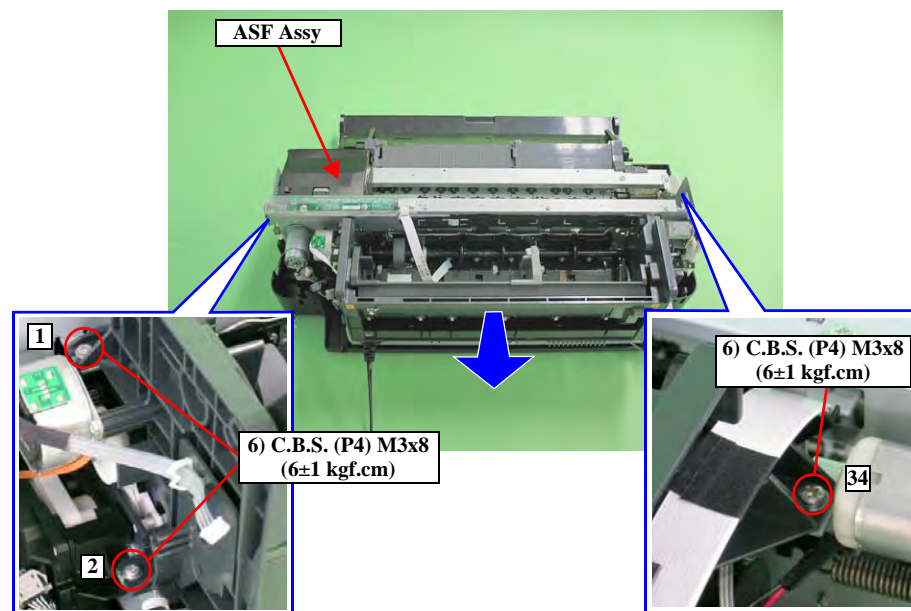

Figure 4-96. Removing the ASF Assy
- Tighten the screws in the order shown in Figure 4-96.